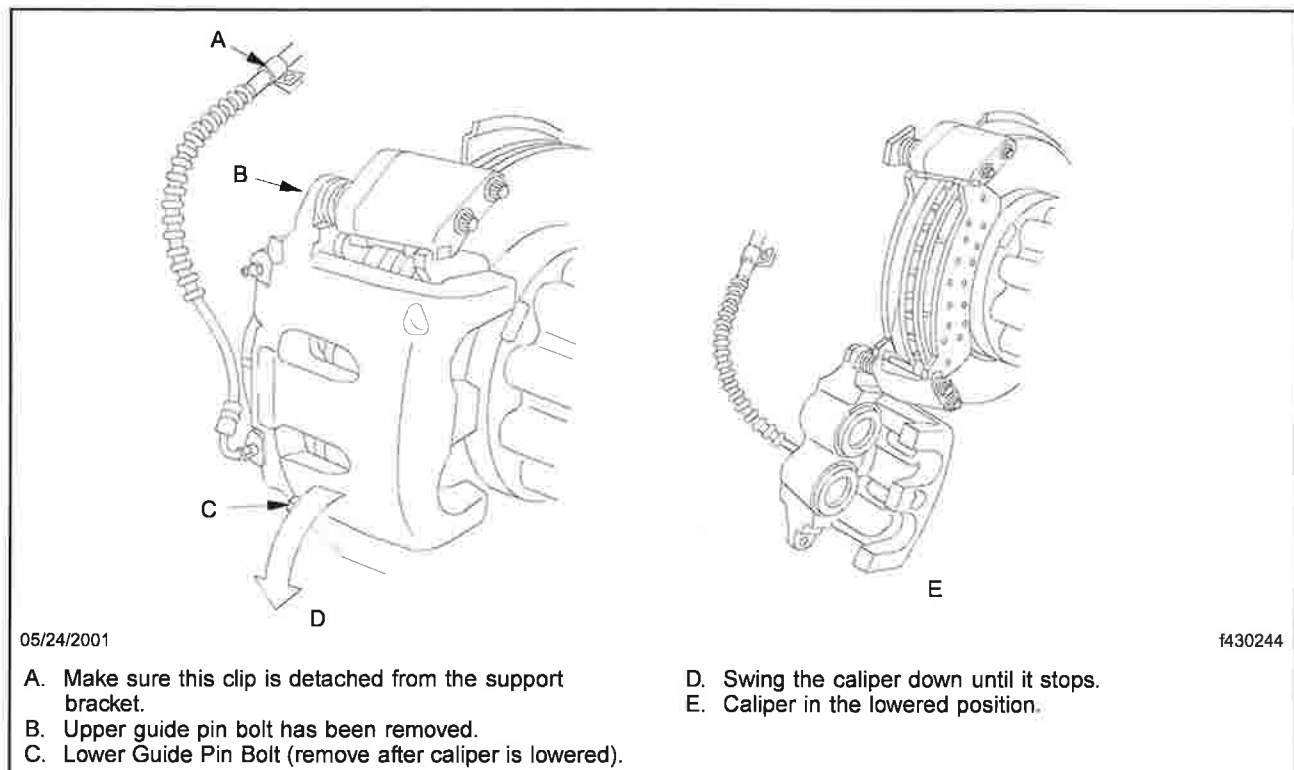

Fig. 4, Swinging the Caliper Down (Open)
7. Swing the caliper assembly away from the rotor by carefully rotating the caliper on the lower guide pin and bolt. See Fig. 4. Do not allow the brake line hose to become pinched or kinked.